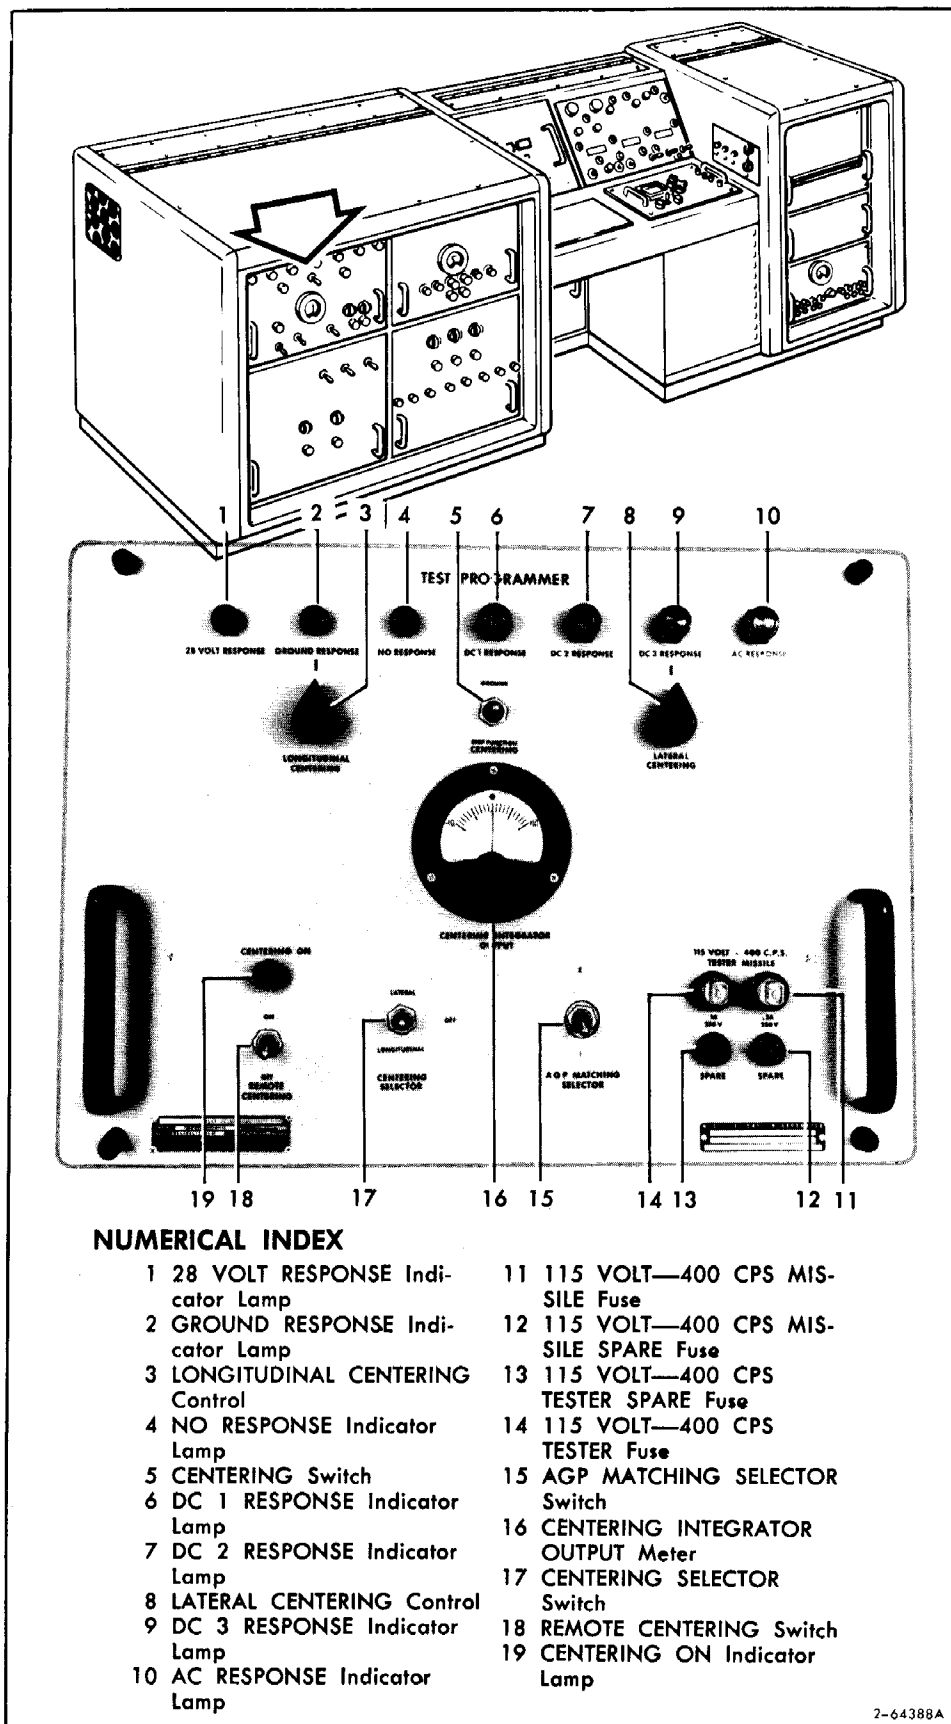

Figure 3-10. Test Programmer
- j. Place CENTERING SELECTOR switch (17, figure 3-10) on Test Programmer OFF.
- b. Insure that REMOTE CENTERING switch on Test Programmer (18, figure 3-10) is OFF.